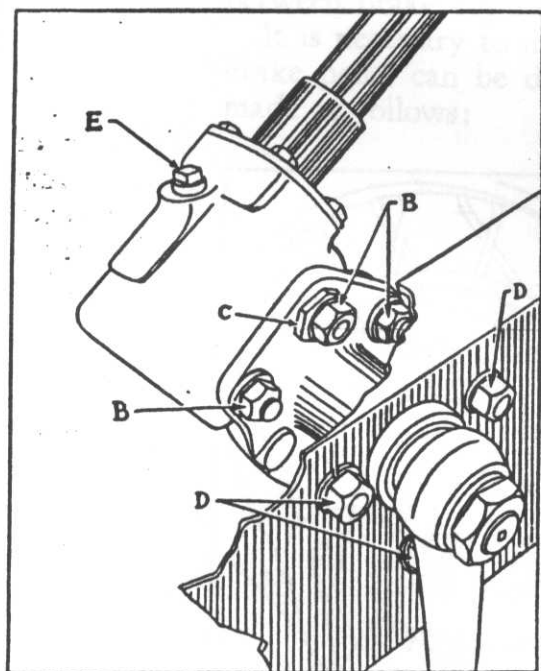

Figure 13
The mesh between the worm and sector of the gear is adjusted by moving the housing cover. To adjust, loosen the four (one not shown) housing cover stud nuts (B), Figure 13, one quarter turn. With front wheels jacked up and in the straight ahead
The housing should be filled at all times with a good grade of S.A.E. 160 gear oil in summer and S.A.E. 110 gear oil in winter. The lubricant can be injected after removing filler plug (E), Figure 13, and should be done every 2,000 miles.